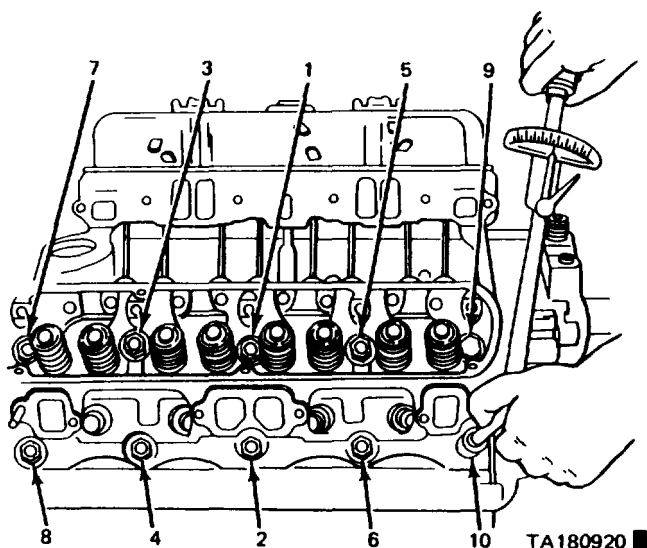

Figure 11-38. Cylinder Head Tightening Sequence.
c. Install the cylinder head bolts. Tighten them to 50 ft-lbs in the sequence shown in figure 11-38. Then, repeating the sequence, tighten the bolts to 95 ft-lbs.